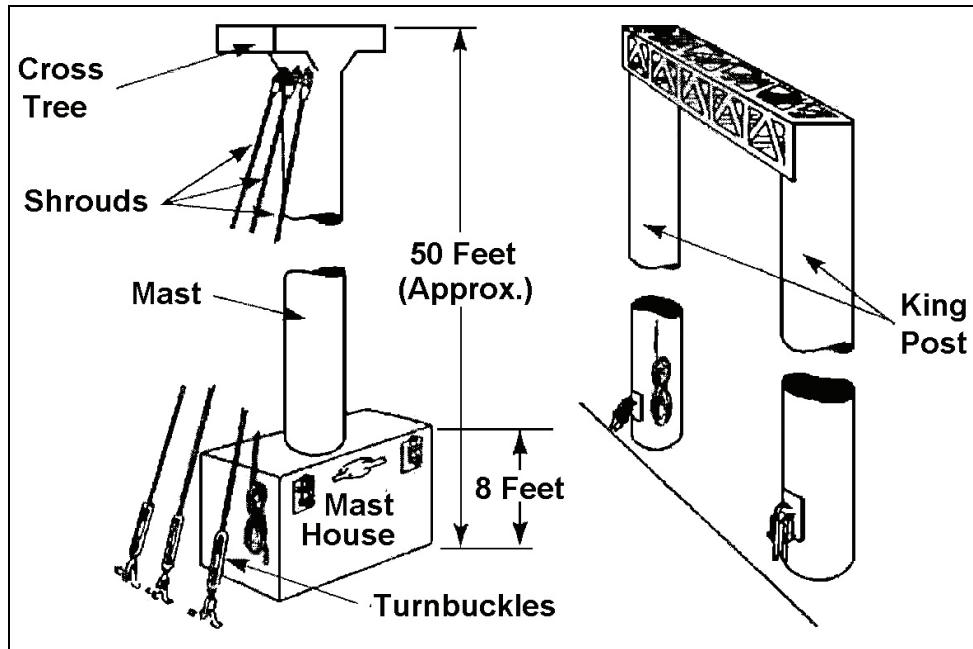

Figure 3-26. Standing Rigging
6. Inspect standing rigging (see Figure 3-26).